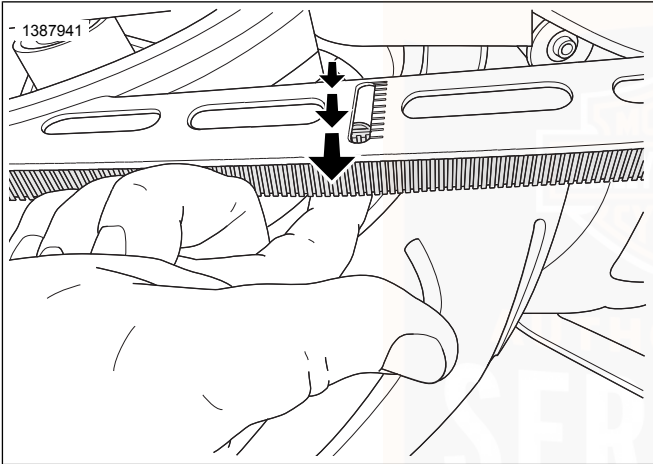

Figure 51. Belt Pluck
- d. See Figure 51. Use finger or thumb to pluck back side of lower belt at belt deflection window.